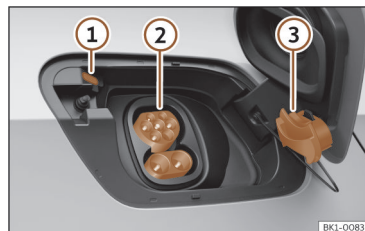

Fig. 58 Behind the battery charging cover on the rear right-hand side.
- Remove the protective cap and hang it on the hook >>> Fig. 58 ③
- Plug the charging station's charging connector into the charging socket >>> Fig. 58 ②
The LED (charging process indicator) of the charging socket flashes or flashes white >>> Fig. 58 ① >>> page 78
The charging process indicator on the charging socket ① flashes green >>> Fig. 58.
- Tap the **Stop charging** function button on the infotainment system display. The charging process indicator located next to the charging socket ① lights up white >>> Fig. 58. The charging connector is unlocked.
- Place the protective cap on the charging socket's lower connection >>> Fig. 58 ③